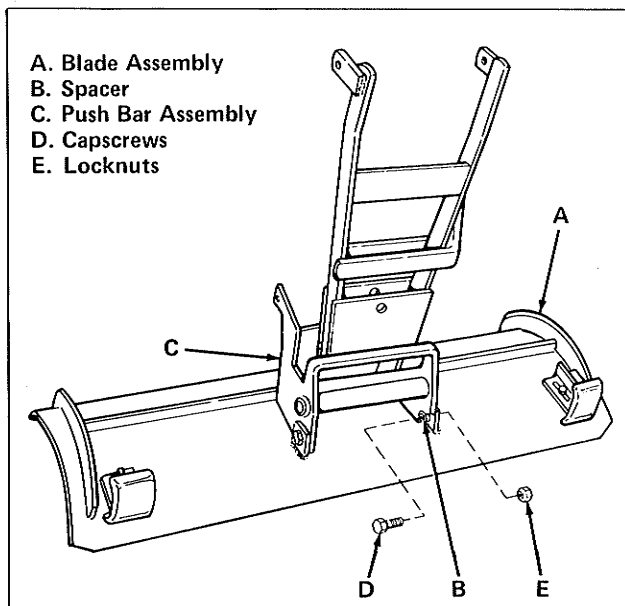

Figure 1. Attaching Blade and Push Bar
1. Place blade assembly (item A, figure 1) on a flat surface.